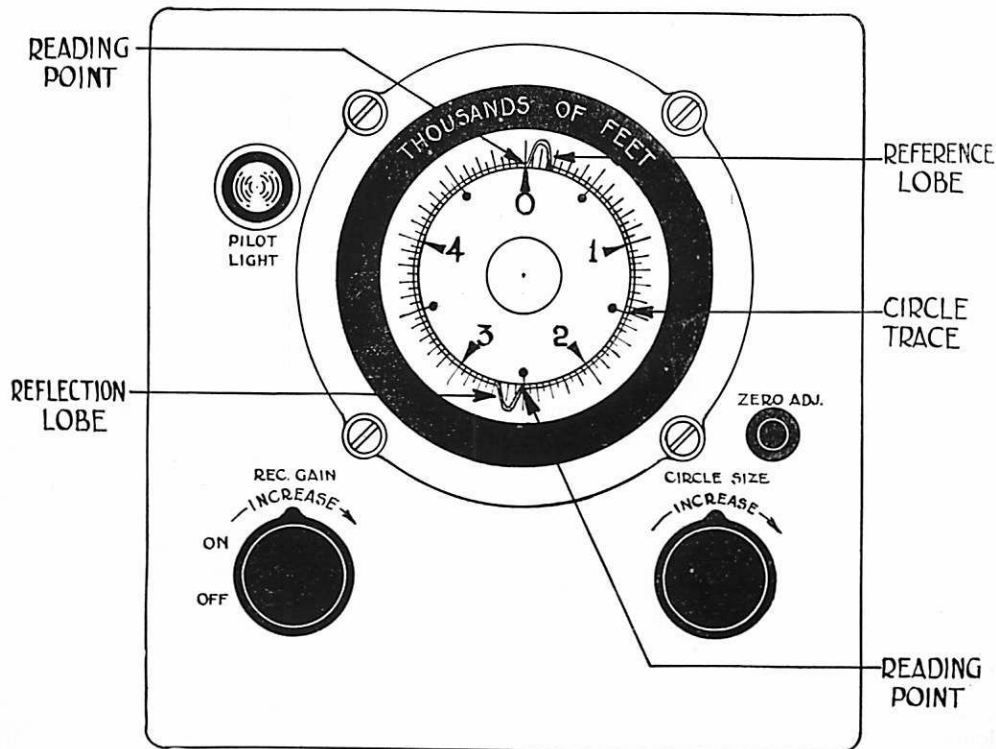

Fig. 1. Indicator for S.C.R. 718A Radar Altimeter.
11. Height above ground is read off from this lobe. Readings should be taken against the leading edge of the lobe (Fig. 1). Because the time base is formed by a clockwise rotation of the electron beam the leading edge of the lobe is the anti-clockwise edge. The reading will be correct at all heights only if the zero adjustment is made at take-off.